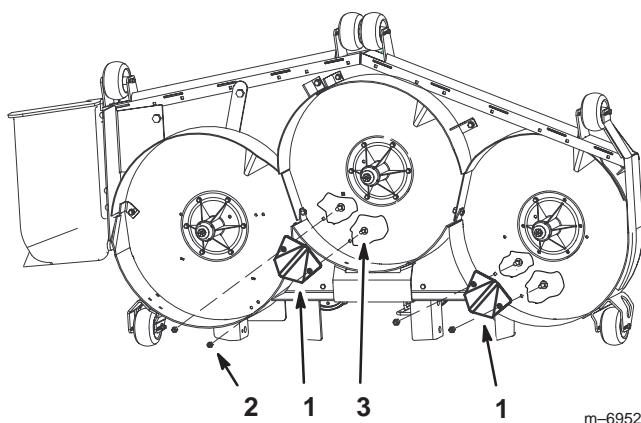

Figure 6
1. Remove the existing bolts and nuts in the holes for the kickers (Fig. 6).
2. Install the new kickers to the mower in the locations shown in Figure 6.
3. Secure the kickers with 4 carriage bolts (5/16 x 1 inch) and 4 locknuts (5/16 inch) (Fig. 6).